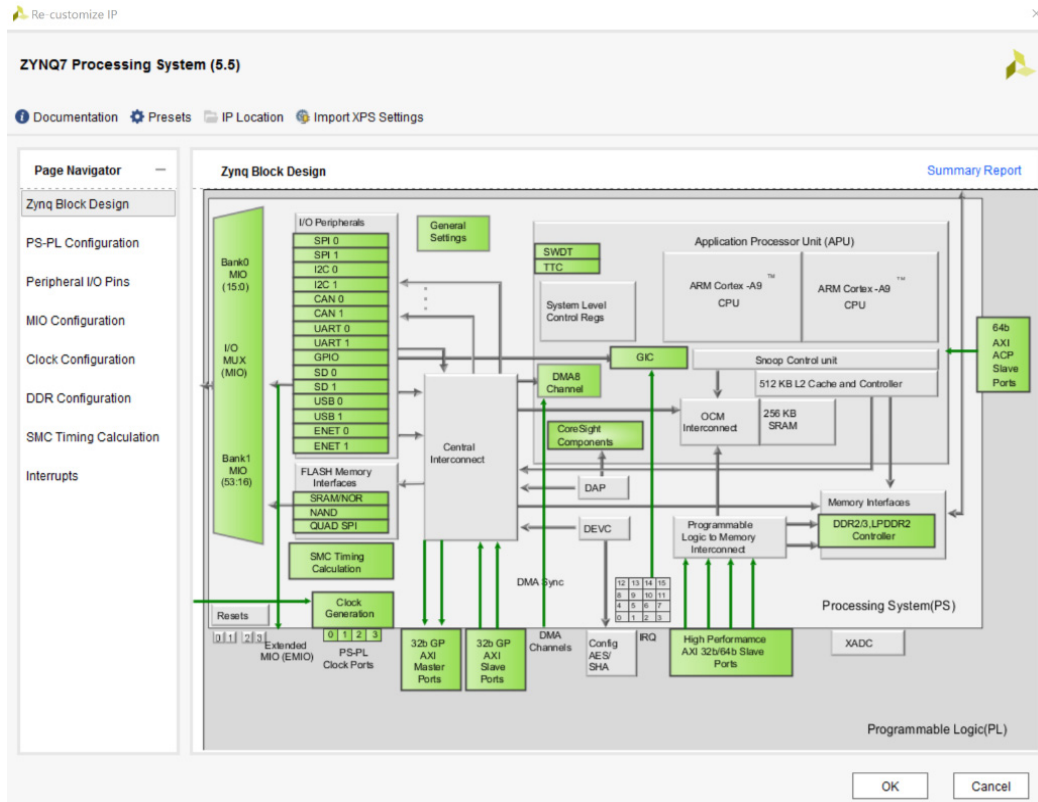

Figure 3-6: ZYNQ7 Processing System Configuration Dialog Box
- The green colored blocks in the ZYNQ7 processing system (PS) are configurable items. You can click a green block to open the coordinating configuration options. Alternatively, you can select the options from the Page Navigator on the left, as shown in Figure 3-6.